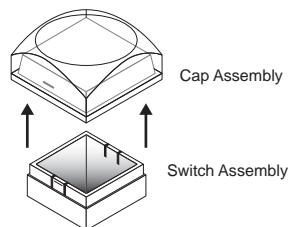

Figure 3.18 Removing Cap Assembly
1. Remove the **Cap Assembly** from the **Switch Assembly** by grasping it firmly and pulling directly away from the control panel surface (**Figure 3.18**).